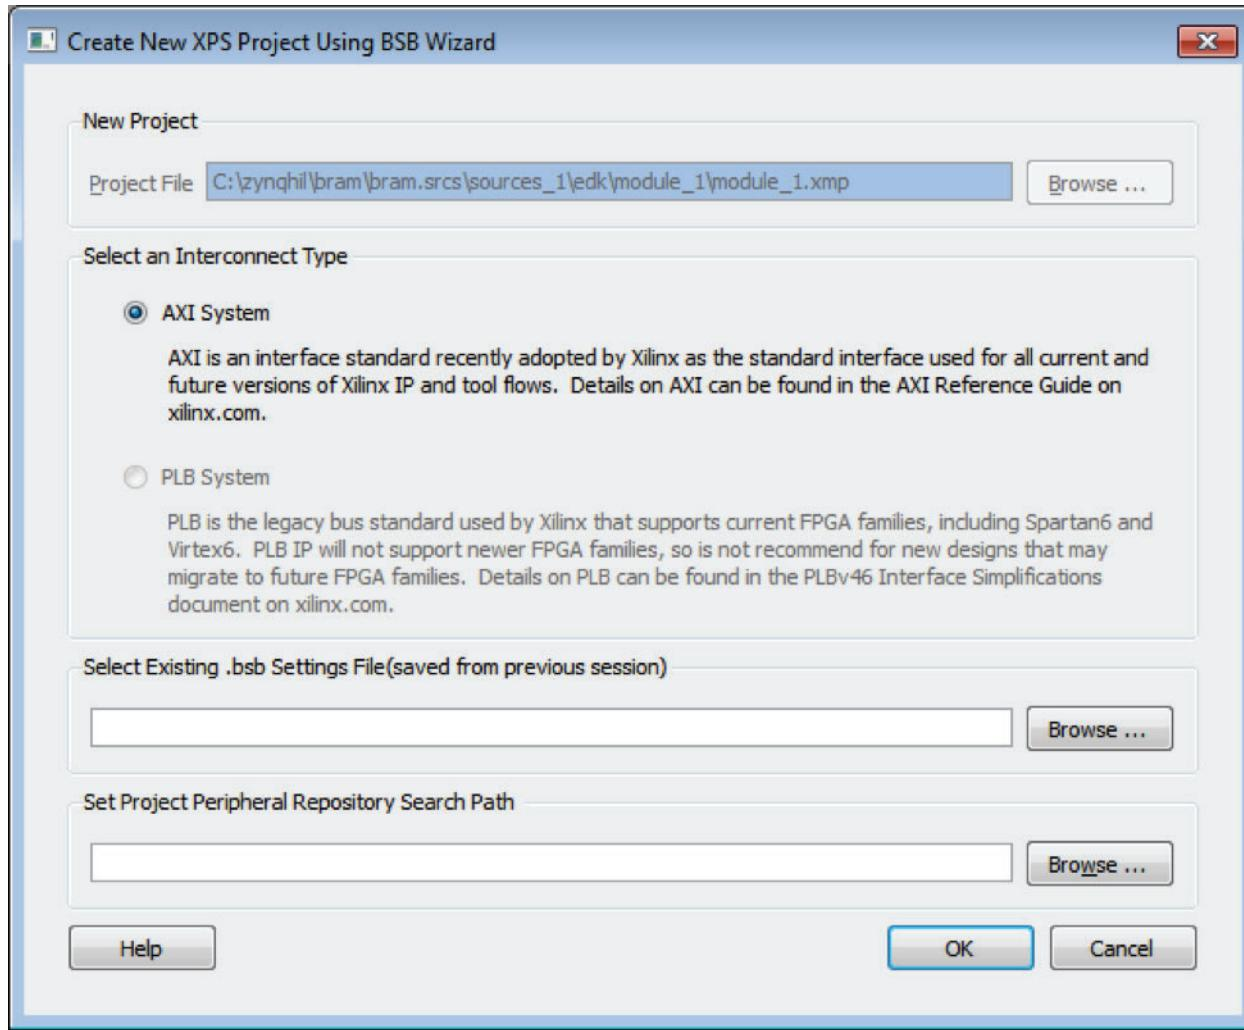

Figure 24: New XPS Project Dialog
6. The New XPS Project dialog shown in Figure 24 appears. Click **OK**.